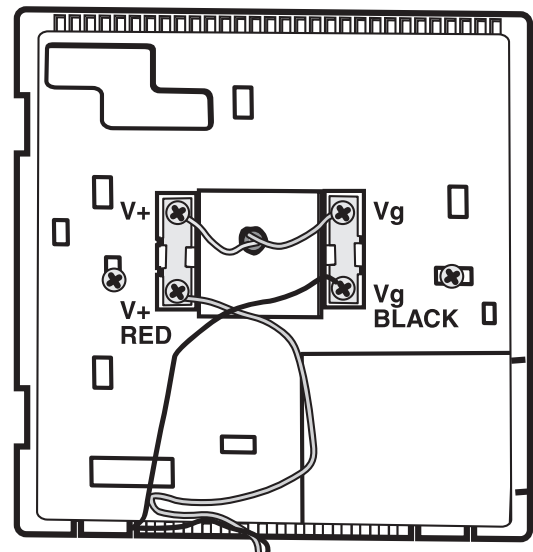

Fig. 5 — Backplate Connector Terminals
9. Connect two wires from the equipment control module to the display module mounting base, being careful not to over-tighten the screws. Correct polarity must be observed when connecting the two wires. If wires are connected incorrectly, the display module will not operate. See Fig. 5 and 6.